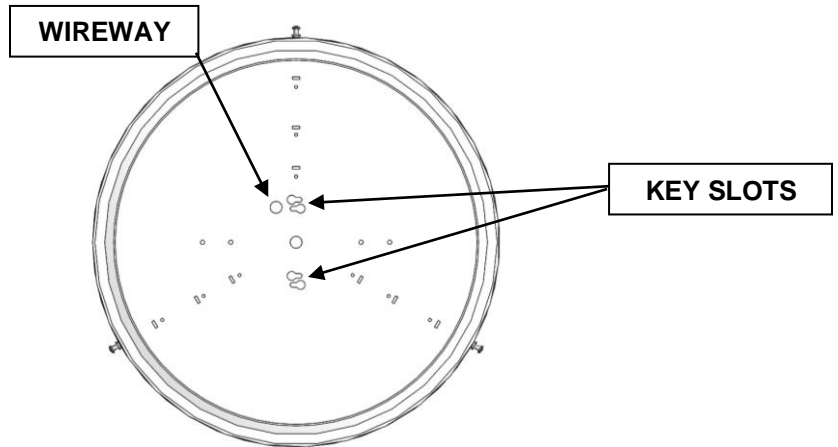

FIG. 2
3. Place the mount pan over the (2) J-box screws via the Key slots (FIG. 2). Rotate the mount pan to secure it in the Key slots, and then tighten the screws to completely secure the pan to the J-Box/Mounting Surface.